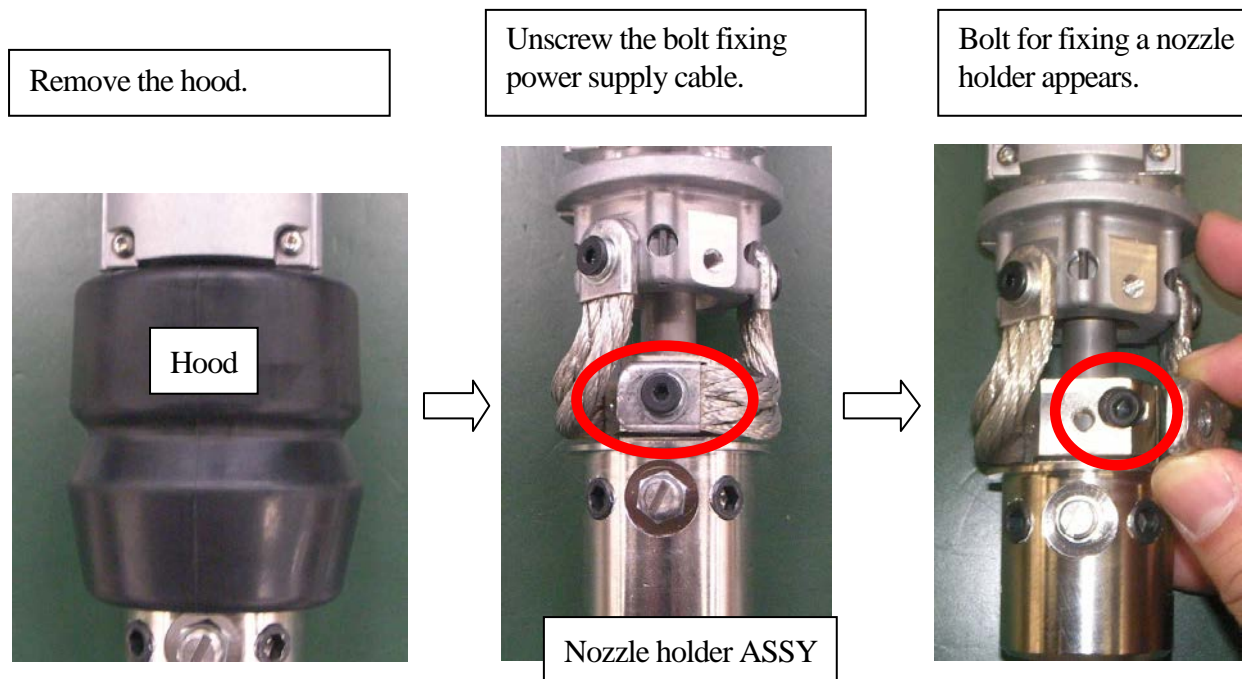

Fig 2.9 Adjustment method of torch (right/left direction)
1. If the torch end deviates in vertical direction, loosen 2 hexagon socket head cap screws ① (M8×20) that fix the insulating bracket onto the L bracket. Correct the position, moving the torch end in the direction that the torch end deviates (upward or downward), and then fix it firmly by tightening the hexagon socket head cap screws.
2. If the torch end deviates in front-back direction, loosen 2 hexagon socket head cap screws ② that fix the mount onto the L bracket (M8×25). Correct the position, moving the torch end in the direction in which the torch end deviates (backward or forward), and then fix it firmly by tightening the hexagon socket head cap screws.
3. If the torch end deviates in horizontal direction, adjust in the following procedure referring to the Fig. 2.9.